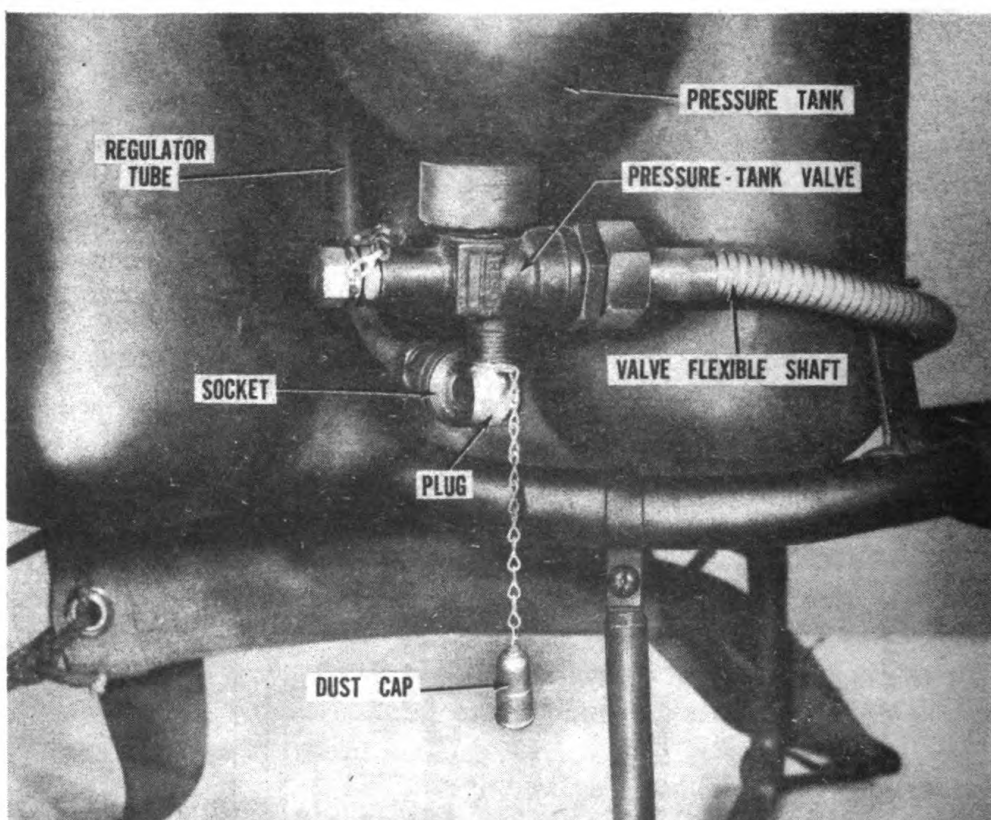

FIGURE 35.3. (Added.) Detachable pressure tank and valve assembly, connected to modified regulator tube assembly.
- 6 Caps, plug, R81-1-926 (with chain) (dust cap for plug). (See fig. 35.3.)
(4) A plug and cap (fig. 35.3) on detachable pressure tank and valve assembly replace tube elbow (fig. 33) used on nondetachable pressure tank and valve assembly.